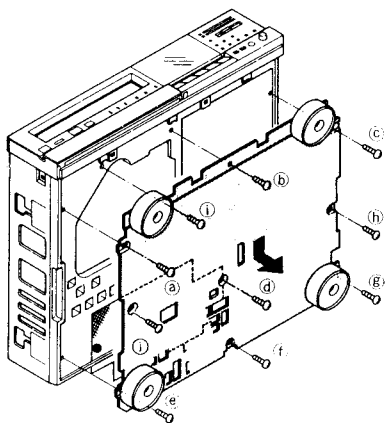

Fig. 2-2
- 1) Remove the ten screws (a, b, c, d, e, f, g, h, i and j) retaining the bottom cover as shown in Fig. 2-2.